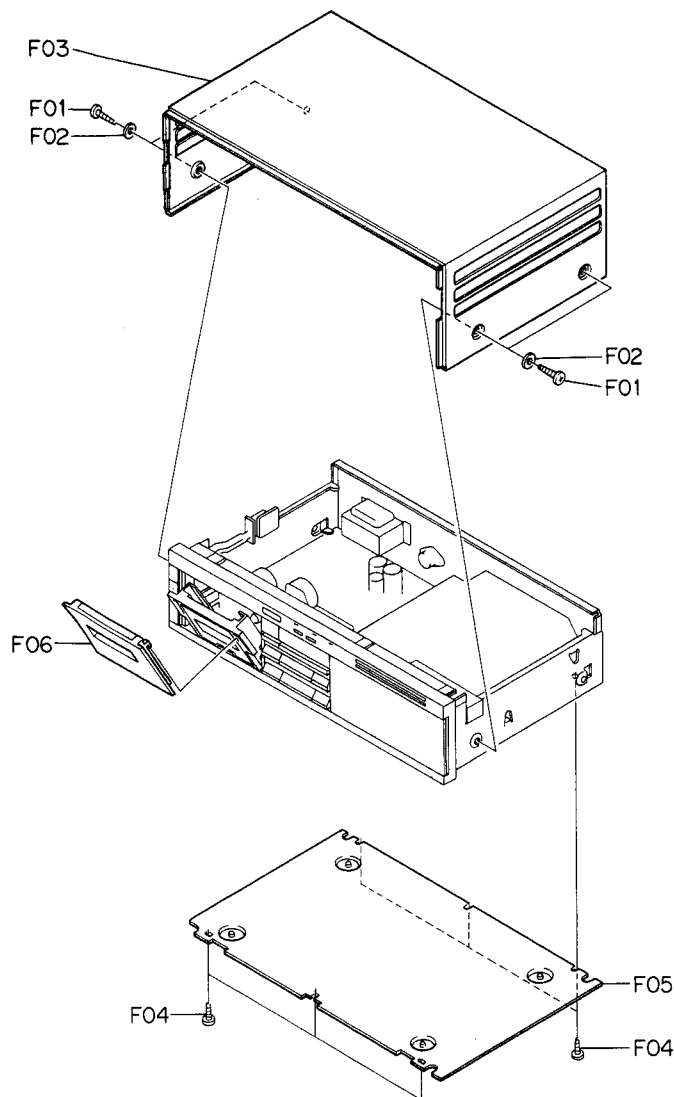

Fig. 2.1
Refer to Fig. 2.1.
- (1) Refer to Fig. 2.1. Remove Top Cover Ass'y and Bottom Cover Ass'y referring to items 2.1 and 2.2.
- (2) Pull out F01 (Volume Knobs) and remove F02, then disassemble F03 (Front Panel Ass'y including 6 connectors).
- (2) Remove 7 connectors and the wires connected by wrapping from F02 (Logic & Power P.C.B. Ass'y).
- (3) Remove F01, then disassemble F02.
- (2) Remove F03 and F04, then disassemble F05 (Record Holder) and F06 (Record Linkage Wire).
- (3) Remove F07, then disassemble F08 (Dolby NR P.C.B. Ass'y) by releasing the self-interlocking pin of the P.C.B. Supporters.
- (2) Remove F01 and F02, then disassemble F03 (Rear Panel Ass'y).
- (2) Remove F04 and F05, then disassemble F06 (Power Transformer).